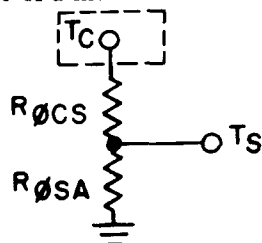

FIGURE 17
To describe the proper heat sink for any application, a fundamental knowledge of heat transference is required. Heat generated by power dissipated in the varistor, will flow through the mounting junction, to the heat sink, and finally to the surrounding ambient. The varistor case temperature (T_C) is a function of both the heat sink temperature (T_S) and the ambient temperature (T_A) which are directly proportional to the amount of heat flow (P) from the junction and the thermal resistances of the mounting ($R_{\theta_{CS}}$) and the heat sink ($R_{\theta_{SA}}$). Figure 17 shows a thermal schematic of a mounted varistor.